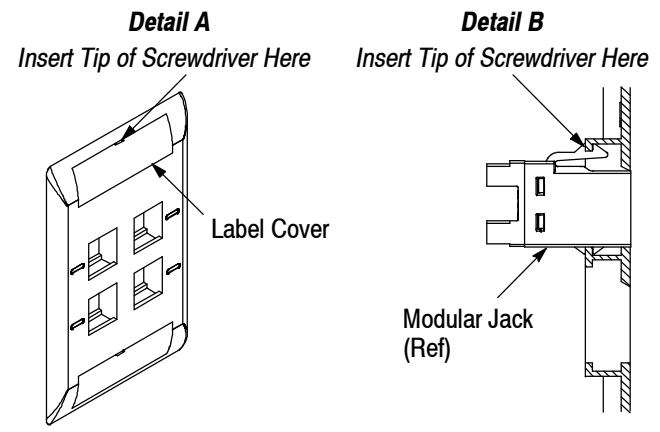

Figure 4
1. Insert the tip of a small-blade screwdriver into the removal slot of the label cover, and rotate it until the label cover opens. See Figure 4, Detail A.
1. Insert the tip of a small-blade screwdriver over the deflecting latch of the modular jack or insert, and rotate it slightly to release the deflecting latch. Refer to Figure 4, Detail B.